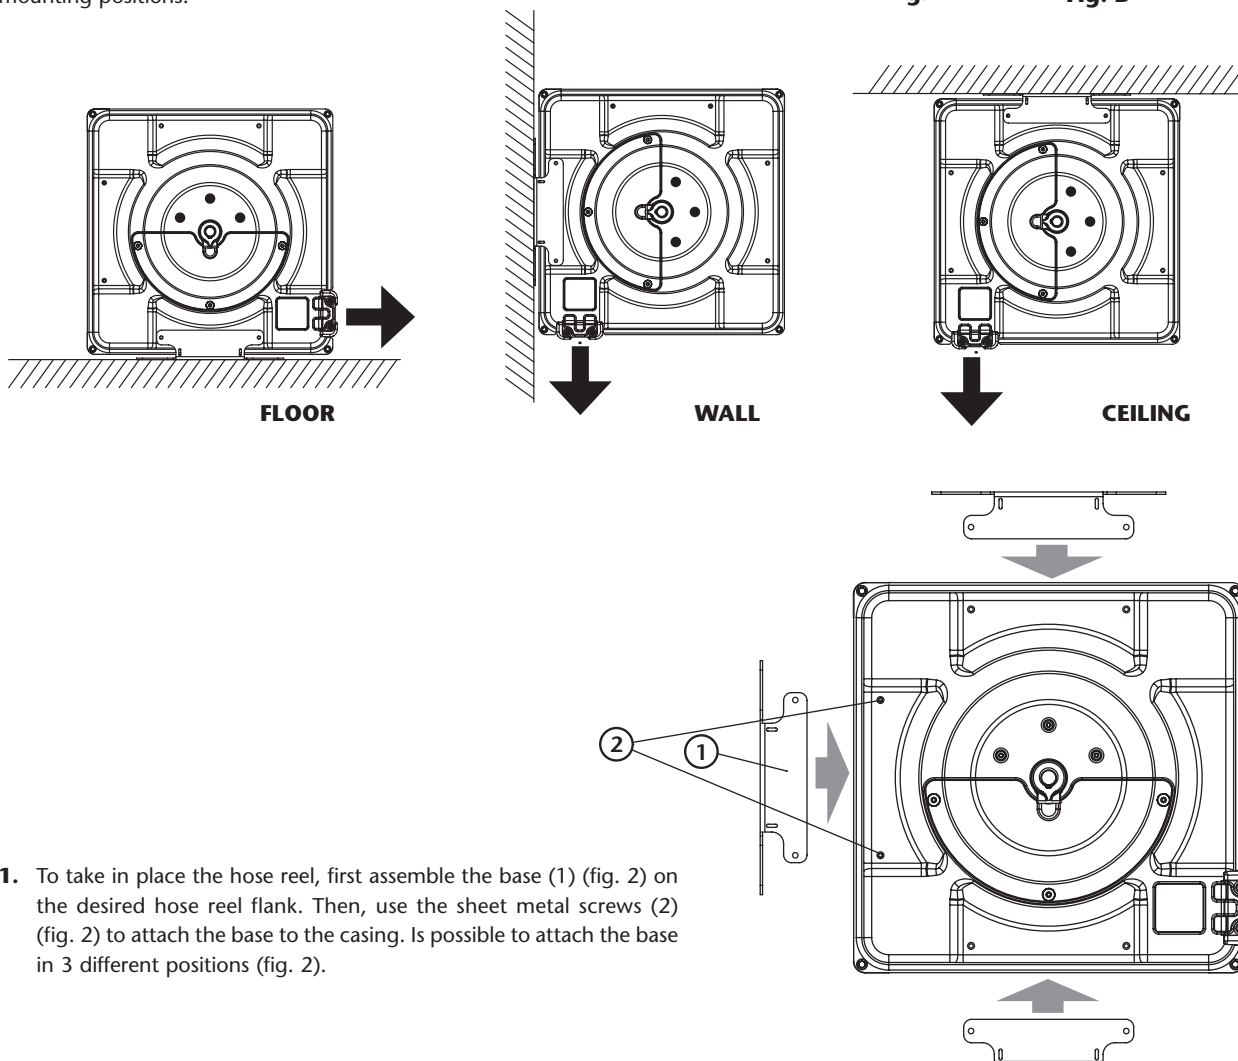

Fig. 2
1. To take in place the hose reel, first assemble the base (1) (fig. 2) on the desired hose reel flank. Then, use the sheet metal screws (2) (fig. 2) to attach the base to the casing. Is possible to attach the base in 3 different positions (fig. 2).